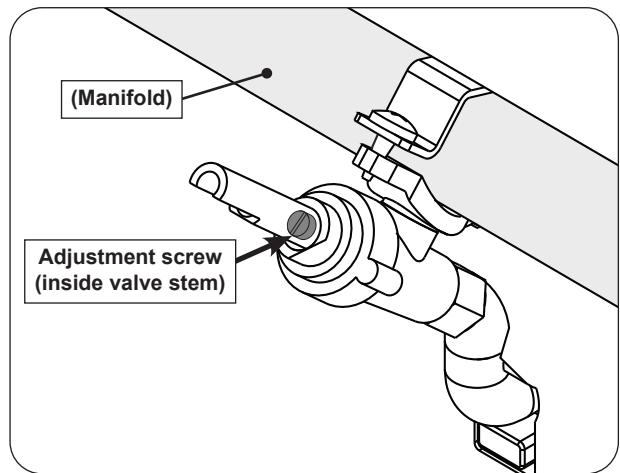

Fig. 46-1 Valve adjustment screw location
2. Remove the griddle top and heat distribution grids. See the GRIDDLE TOP REMOVAL and HEAT DISTRIBUTION GRID(S) REMOVAL section for details.
4. Locate the FLATHEAD adjustment screw found inside the valve stem (see Fig. 46-1).